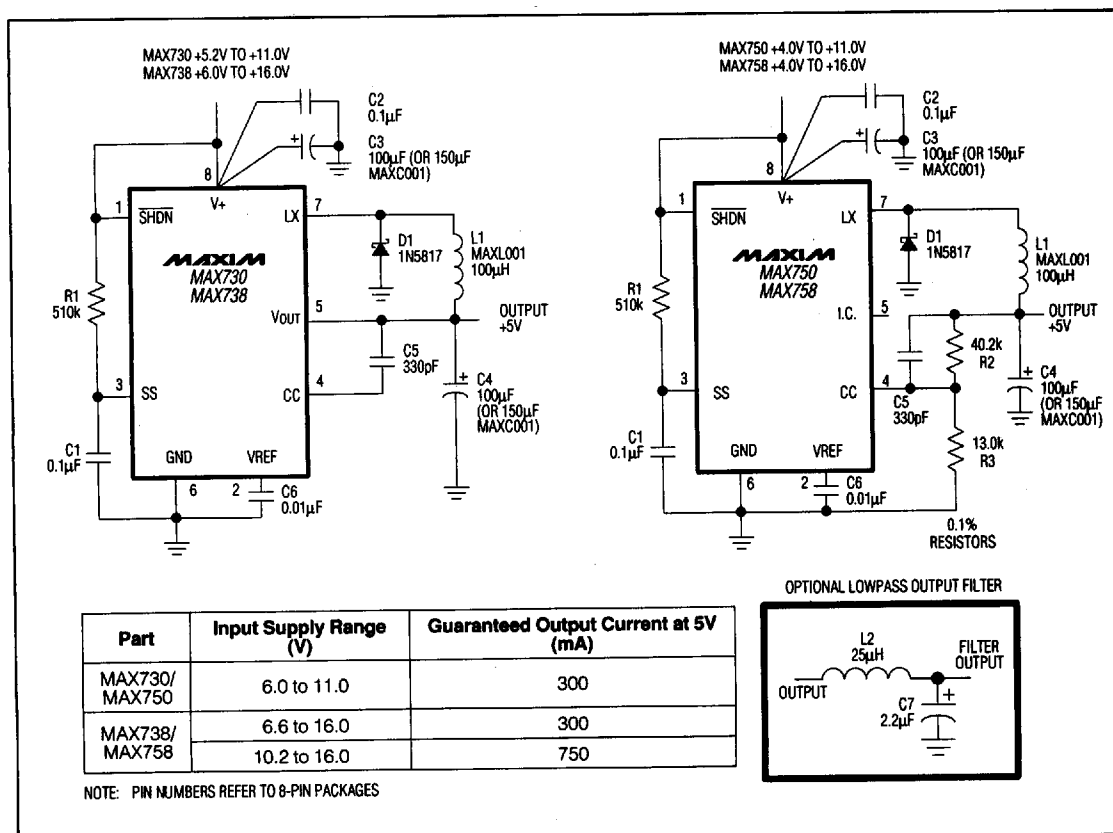

Figure 3. Standard +5V Step-Down Application Circuit
CIRCUIT OF FIG. 3, V₊ = 12V, T_A = +25°C
Figure 3 shows both the standard 5V and the adjustable step-down application circuits. These circuits are useful in systems that require high current and high efficiency and are powered by an unregulated supply, such as a battery or wall-plug AC-DC transformer. These circuits will operate over the entire line, load, and temperature ranges using the single set of component values shown. All components shown are suitable for the MAX730/738/750/758. The actual value of the input and output capacitors is not critical as long as it is greater than 100 μ F, has low ESR, and has sufficient voltage rating.
For other output voltages, the MAX750/MAX758 have adjustable outputs from 1.25V to the input voltage. To adjust for other output voltages, connect a voltage divider to the compensation capacitor input (CC) pin as shown in Figure 3.
A simple lowpass pi-filter (Figure 3) can be added to the output to reduce output ripple to about 5mVp-p. The cutoff frequency shown is 21kHz. Since the filter inductor is in series with the circuit output, its resistance should be kept to a minimum so the voltage drop across it is not excessive.